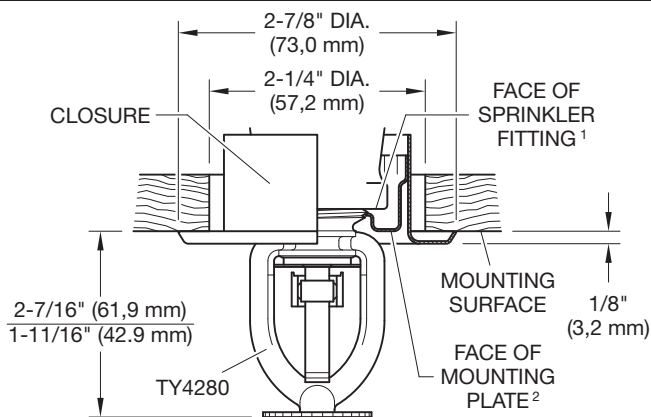

FIGURE 7
- 8.0K sprinkler and a Style 60 Two-Piece Flush Escutcheon where applicable, as shown in Figure 7.